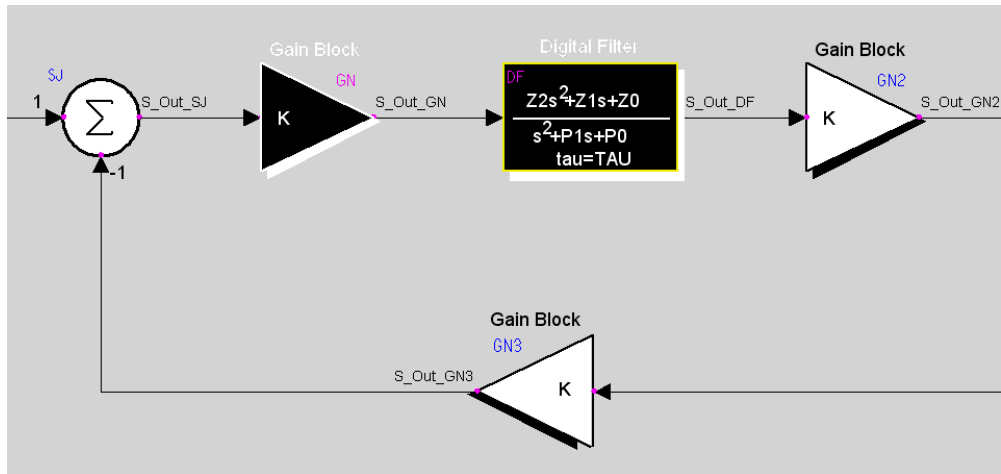

Figure 52 Example of Using a Selection Box to Capture Components
2. Release the mouse button. The components darken indicating that they have been selected as shown in Figure 52.
Figure 52 gives an example of a hybrid system model using continuous and discrete components.